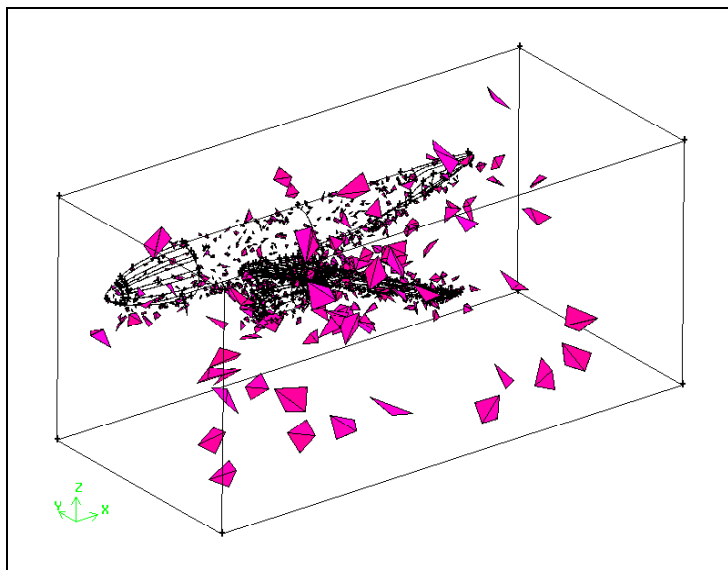

Figure 14-25: Display of elements with EquiAngle Skew values between 0.7 and 0.8
*You can view element quality by range by selecting the **Display Type:Range** option, and clicking one of the histogram bars near the bottom of the **Examine Mesh** form. Figure 14-25 shows the elements with EquiAngle Skew values between 0.7 and 0.8.*